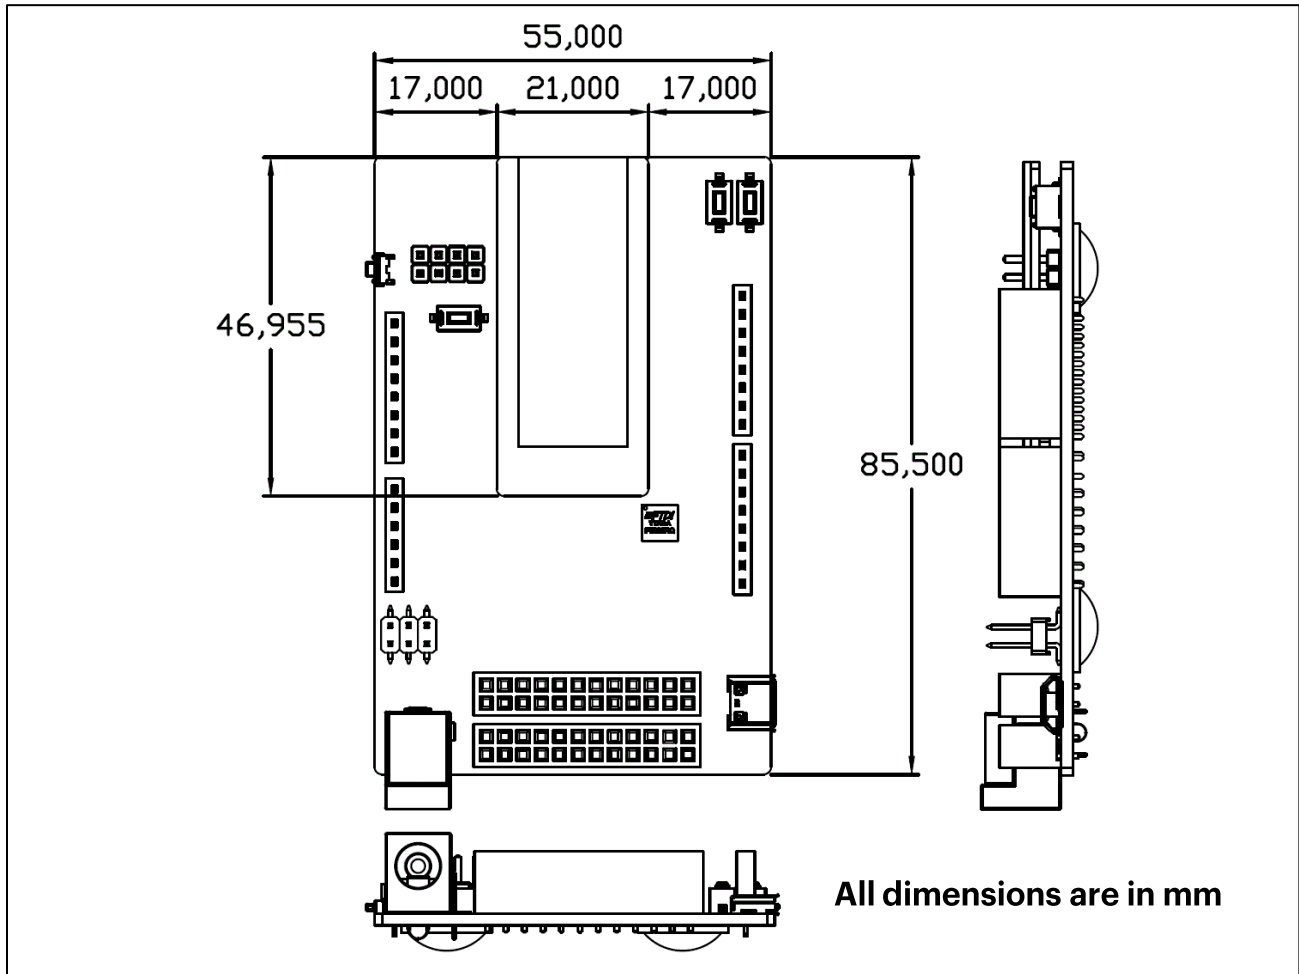
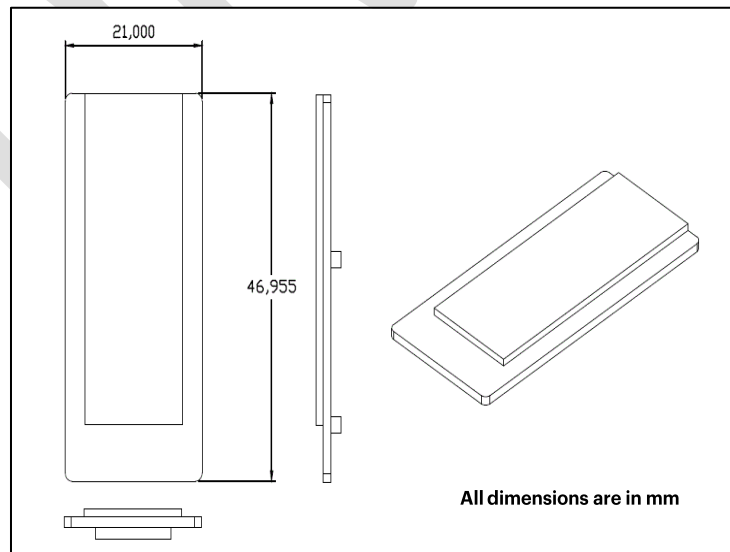

Figure 3. Mechanical Dimensions ARTIK 053 Starter Kit
Figure 4. Mechanical Dimensions Interposer Board
- List of Figures 3
- Figure 3. Mechanical Dimensions ARTIK 053 Starter Kit 8
- Figure 4. Mechanical Dimensions Interposer Board 8
Figure 3 and Figure 4 show the mechanical dimensions of the ARTIK 053 Starter Kit and the Interposer Board.